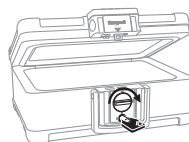

Figure 3.4
4. Hold the knob in the unlatched position. Lift the lid to open. (Figure 3.4).